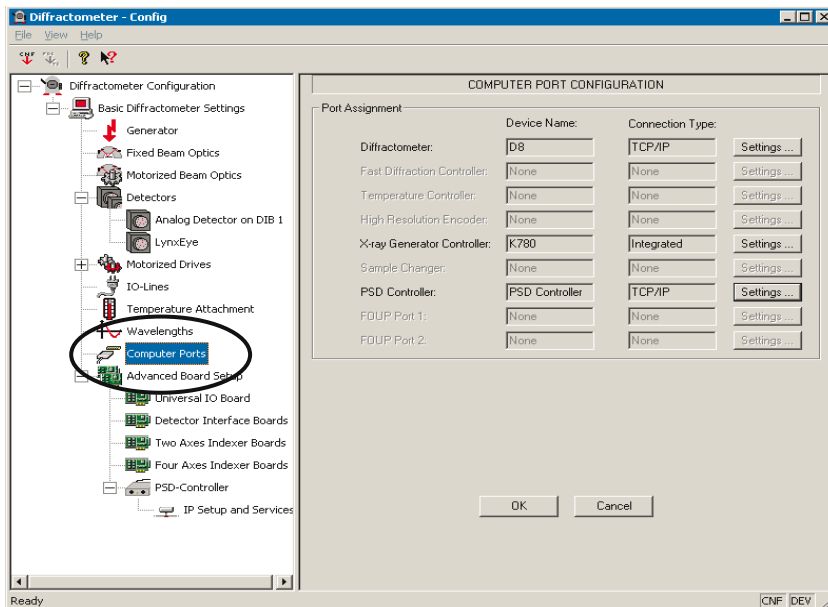

Figure 6.17 Computer port configuration
1. In Config, go to Computer Ports (see Figure 6.17).
4. In Computer Port Configuration, click **OK** to accept the changes (see Figure 6.17).